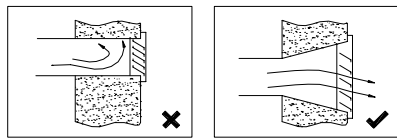

Fig.13 Outdoor vent
4. Keep air resistance of decorative vent on outdoor wall and indoor ceiling low. It is better to install rectangular aluminum alloy diffuser or two-layer louver with caliber of above 200×200mm.If the outdoor vent is waterproof louver, its caliber area should be 3-4 times bigger than cross-sectional area of duct connecting with it. The air flow can pass through the louver smoothly. The selection of outdoor vent is shown as fig.13.